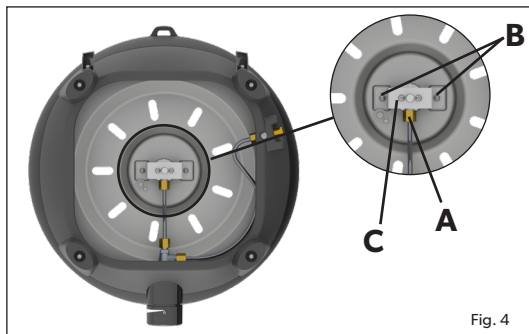
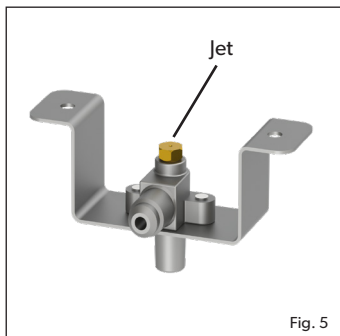

Fig. 4
Fig. 5
- We recommend to clean or replace the jets every six (6) months to ensure continued efficient operation of your appliance.
To replace the jet, remove all loose surfaces from your appliance and turn the base unit upside down. Using a suitable spanner, loosen the nut (A) (Fig. 4). Unscrew the 2 screws (B) (Fig. 4). Remove the bracket (C) to expose the jet. (Fig. 5). Remove the jet using a suitable spanner. Do not use pliers on the jet as this may damage the jet, making it unusable or impossible to remove. Screw the new jet into the valve. Do not over-tighten as this may damage the jet.